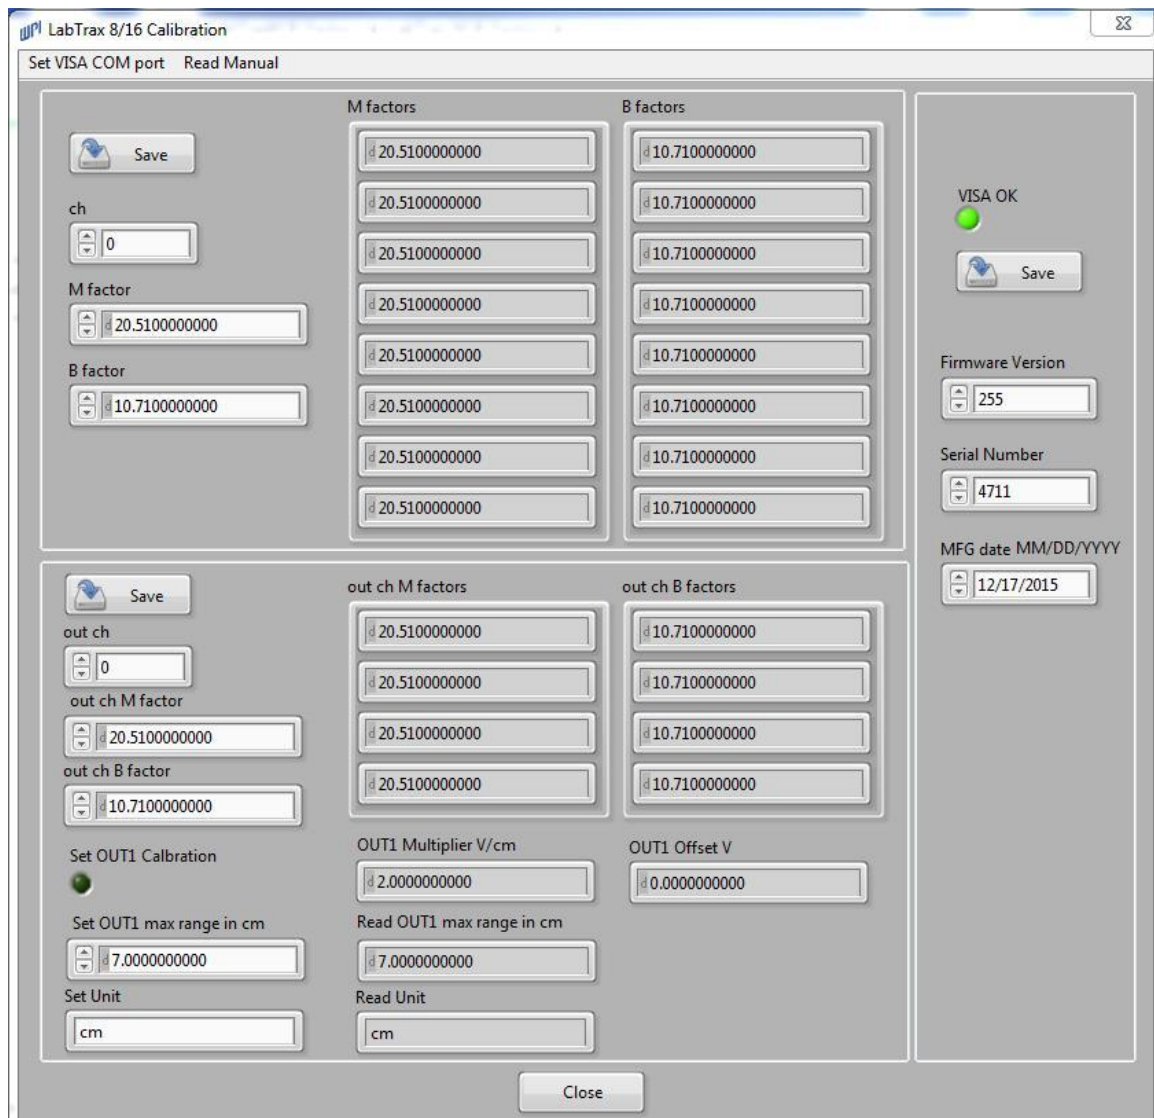

Fig. 2
As MDAC can be used as an 8-channel interface, all 8-Input channels are displayed and can be modified (fig. 2).
- To set **Firmware Version**, **Serial Number** and **MFG date**, change the value in the corresponding field (Fig. 2). Press **Save** to store the data in the LabTrax 8/16.
- To set Channel Input M-B factors, select the desired channel (**ch**), change the **M factor** and/or **B factor** value (Fig. 2). Press **Save** to store the data in the LabTrax 8/16. The modified input M- and B- factor is displayed in the **M factors** and **B factors** array. Repeat this action for each input channel.
- To set Channel Output M-B factors, select the desired channel (**out ch**), change the **out ch M factor** and/or **out ch B factor** value (Fig. 2). Press **Save** to store the data in the LabTrax 8/16. The modified output M- and B- factor is displayed in the **out ch M factors** and **out ch B factors** array. For this action, the **Set OUT1 Calibration** LED is not activated. Repeat this action for each output channel.